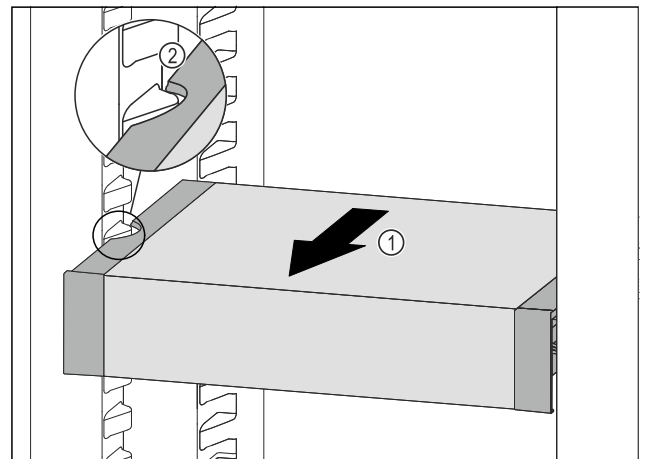

Fig. 135
- Pull VarioSafe forwards *Fig. 135 (1)* until the recesses in the side of the VarioSafe are at the level of the support rib in the fridge section. *Fig. 135 (2)*